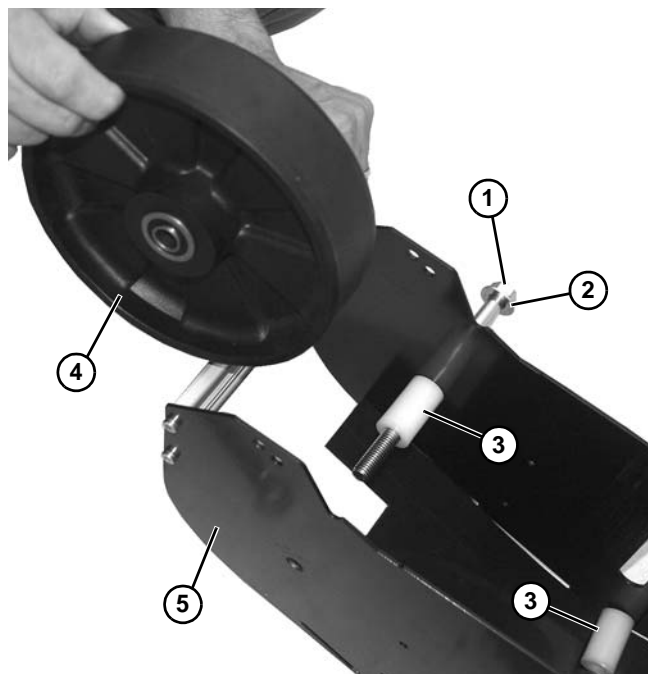

Figure 150
4. Remove bolt (**Figure 150, item 1**), washer (**Figure 150, item 2**), two spacers (**Figure 150, item 3**), and wheel (**Figure 150, item 4**) from take up assembly housing (**Figure 150, item 5**).